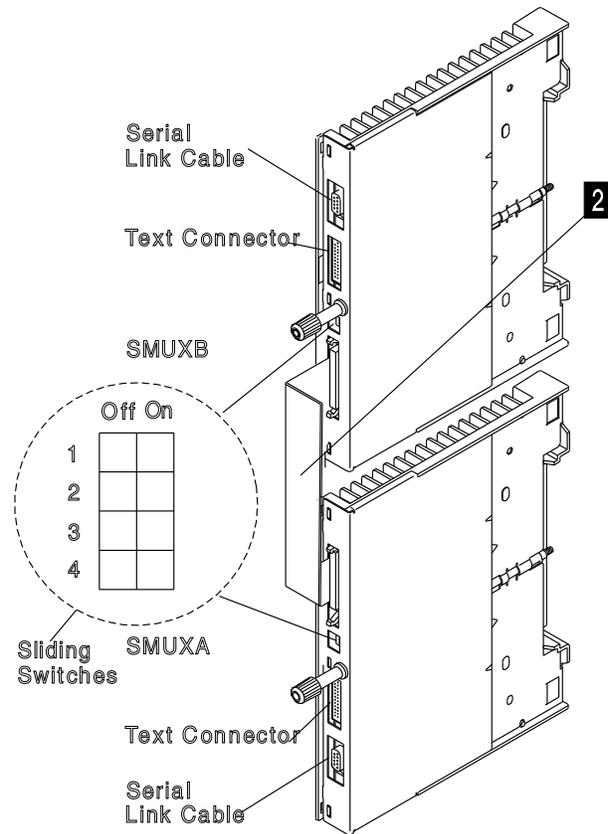

Figure 4-53. SMUX Link and Cable
Refer to Figure 4-53 and do the following:
4. Set the XMIT level according to the table below. Refer to Figure 4-53 on page 4-42 for the sliding switches.